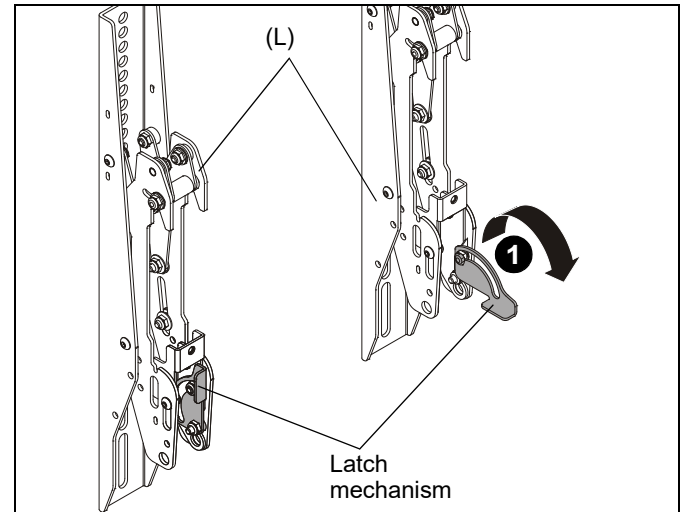

Figure 7
1. Lower the latch mechanism on each interface bracket (L). (See Figure 7)